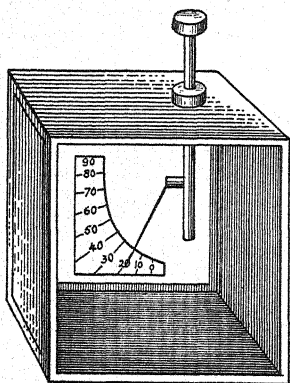

FIG. 349. — An electroscopes suitable for measuring the activity of radium.
surrounding the electroscope and thus breaking them up into ions. The ions act as conductors and discharge the electroscope. The activity of a sample of radium bromide may be determined by the speed at which it will discharge an electroscope of the type shown in Fig. 349. The rate of discharge is timed with a stop-watch, and the time is compared with that needed by a standard sample to produce a like discharge. In the chemical laboratory, the chemist weighs to 0.0001 gm., or possibly to 0.00001 gm. The electroscope is much more sensitive than the chemical balance for determining the value of radium salts. (3) Radium salts produce *fluorescence* with